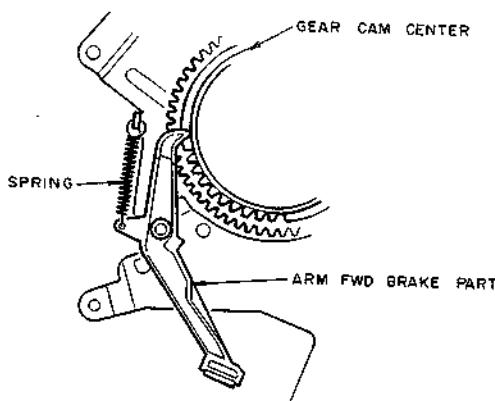

Fig. 4-11
- 7) Attach the ARM FWD BRAKE and Spring as shown in Fig. 4-11.